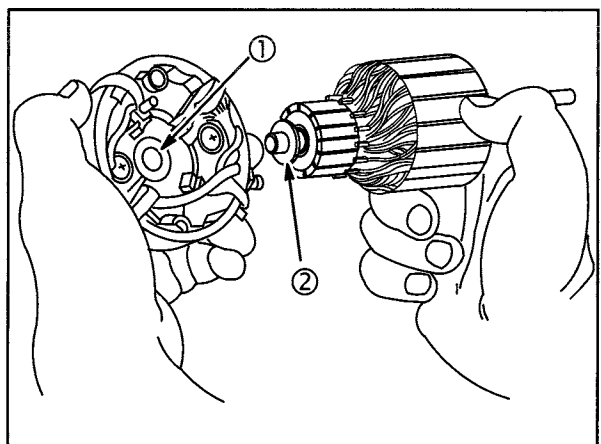

Fig. 26
When all parts have been inspected, lightly lubricate bearings(1) in both end caps with #20 oil, Fig. 26.
1. Install spacer (2) to armature shaft (if equipped).